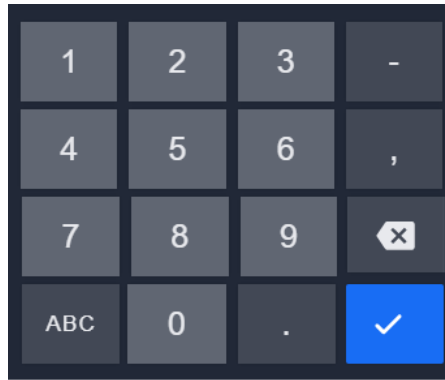

Fig. 1.28
2. Tap the PIN field and enter your four-digit PIN using the pop-up keypad (Fig 1.28).